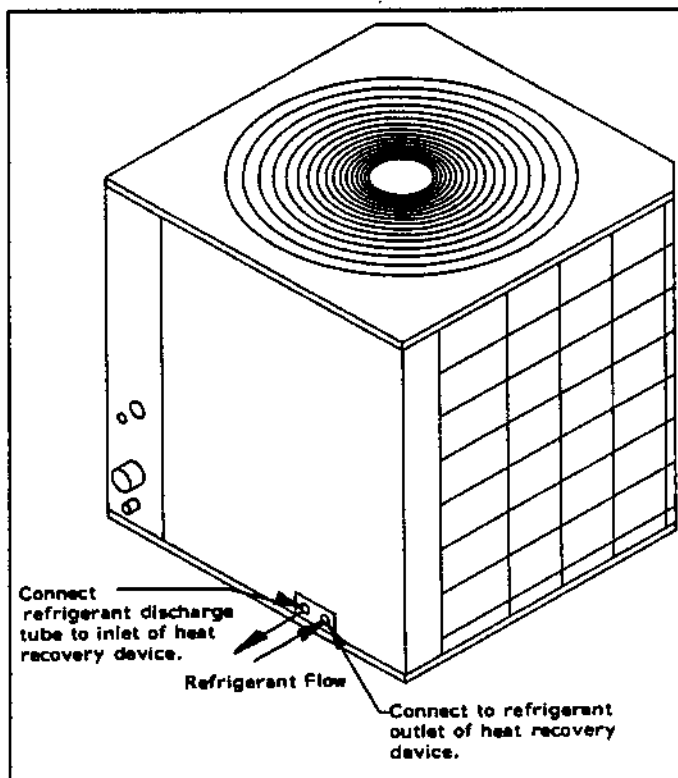

FIGURE 2
3. Connect the refrigerant lines between the heat recovery device and the heat recovery valves in the air conditioner outdoor section. Keep dirt and moisture out of the inter-connecting tubing using good refrigeration service procedures. (See figure 2). Use refrigeration grade (type L) copper tubing. The tube diameter should be the same as the valve for lengths up to 15 feet each way. For lengths between 15 and 25 feet, increase the diameter 1/8". Avoid placing the heat recovery device over 25 feet from the air conditioner.